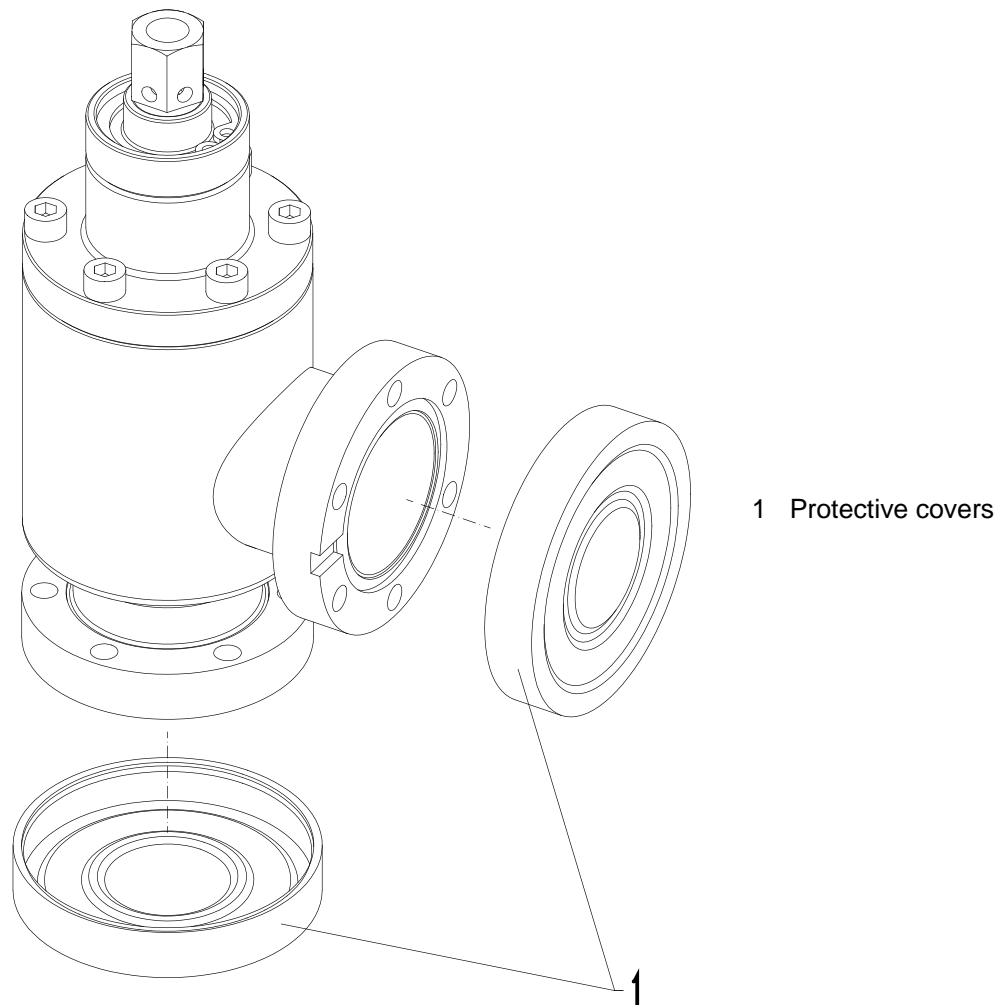

Figure 4-1
2. Remove protective covers (1); see «Figure 4-1».